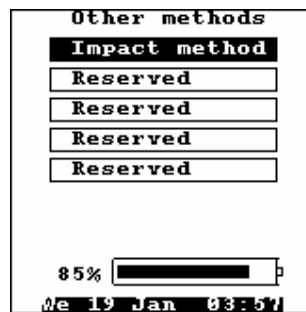

Fig. 65
4. From the initial splash screen mode press the Shift + Right keys. “**Other methods**” menu will be displayed (Fig. 65).